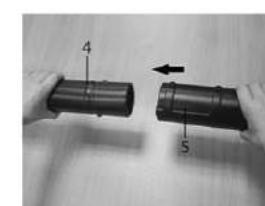

Fig.2
1. Push the blower straight tube (4) and blower nozzle tube (5) together and rotate until they lock.(Fig 2 & 3)